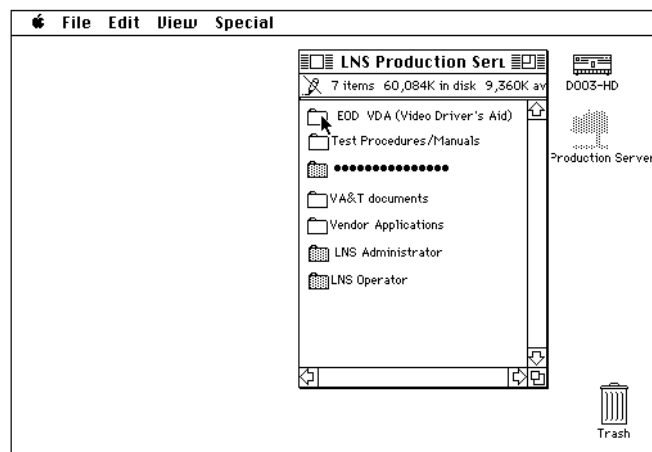

Figure 4
- 8.0 Position the mouse pointer on the "VDA" folder and double click to open it. See Figure 4.